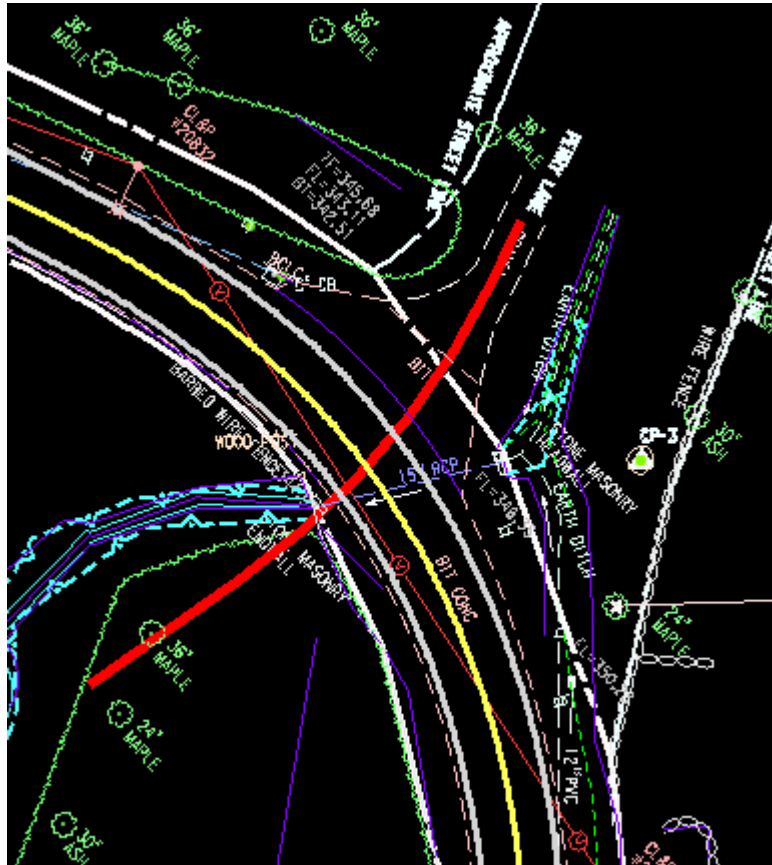

Figure 5-10 Location of Linestring to Import
- C. You will now be prompted to pick an element from the graphics. Select the **thick red line** on the side road shown in Figure 5-10. Then click again to accept.